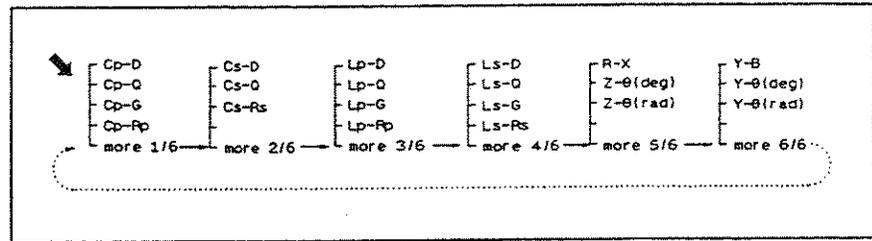

Figure 5-18. Display Order of the Measurement Function
2. Press **more X/6** until the softkey labels are changed to the function you are looking for. Figure 5-18 shows the display order of the measurement function.